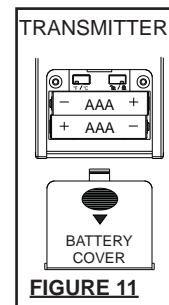

FIGURE 11
2.1 Place 2 "AAA" batteries into the battery compartment of the transmitter. **FIGURE 11**
Transmitter: Gently press and slide the battery cover from the rear surface of the transmitter. After removing the original batteries, wait at least 1 minute before replacing with fresh batteries. **FIGURE 11**